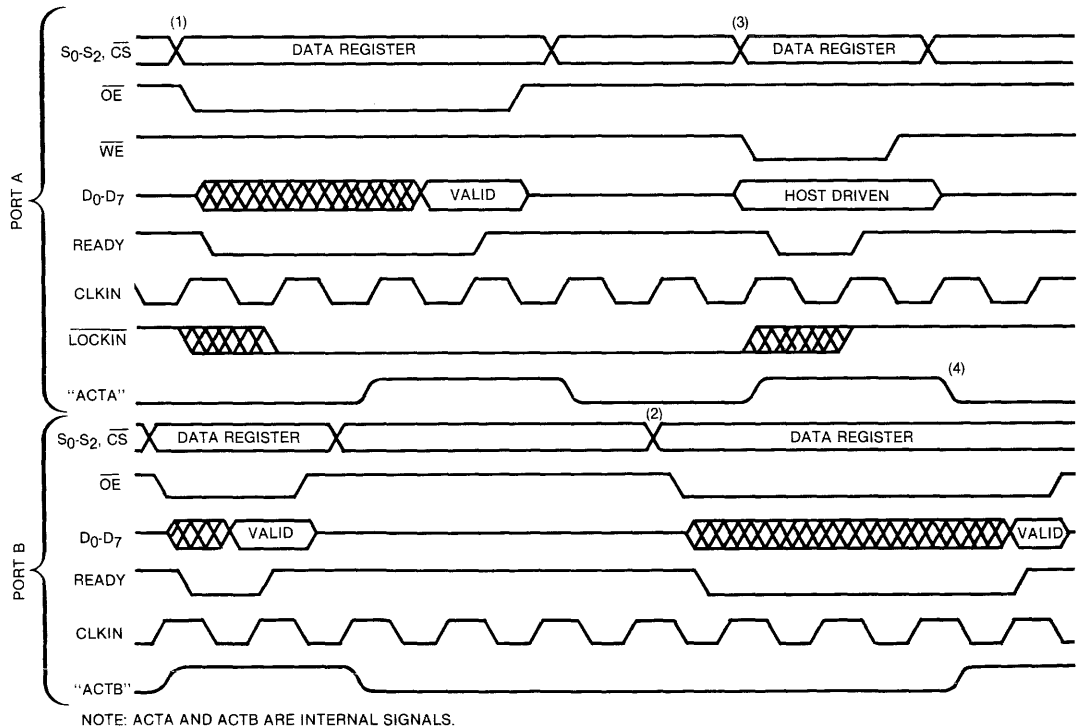

Figure 7. TYPICAL READ-MODIFY-WRITE OPERATION USING LOCKIN
Figure 7 shows an example of the lockout facility being used to implement an indivisible read-modify-write operation. Port A performs the read and write operations with a lockout asserted between them by means of the LOCKIN input. At the time when port A tries to do a read from the RAM (1), there is already a read cycle in progress on port B. Port A, therefore, enters a wait state until this operation is complete even though the LOCKIN input is asserted. When the read cycle at port B is complete, the memory operation at port A can proceed and, in addition, the lockout of port B becomes effective. Consequently, when the next memory operation is initiated to port B (2), it enters a wait state even though there is no activity on port A. Port A then enters a write cycle (3), during which the LOCKIN is removed. When the write cycle ends and ACTA goes low (4), ACTB can rise in the absence of the lockout and the memory operation can also be completed here. Therefore, the read and write operations at port A cannot be interfered with from port B. LOCKIN would be derived from a multi-processor interlock-type signal in host system B.